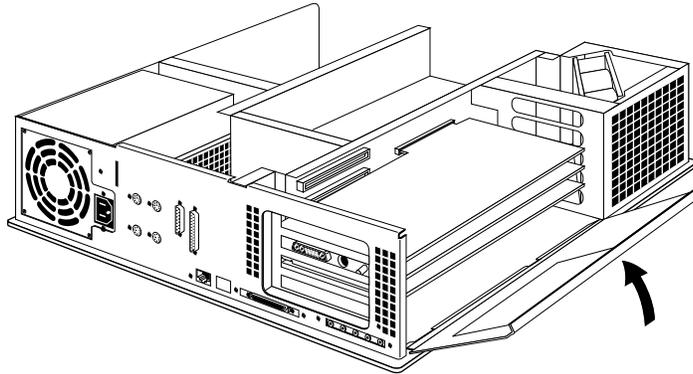

Figure 5 Closing the Metal Panel in Front of the EISA Slots
6. Tip the metal panel up until it snaps into place, as shown in Figure 5.